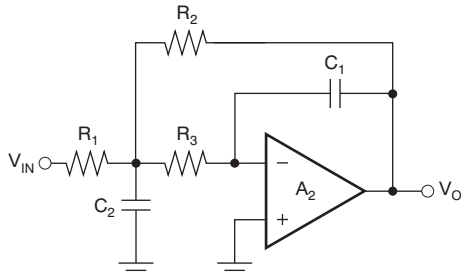

Figure 12. MFB Complex Pole-Pair Section (Gain = $-R_2/R_1$)
- Multiple Feedback (MFB), illustrated in Figure 12